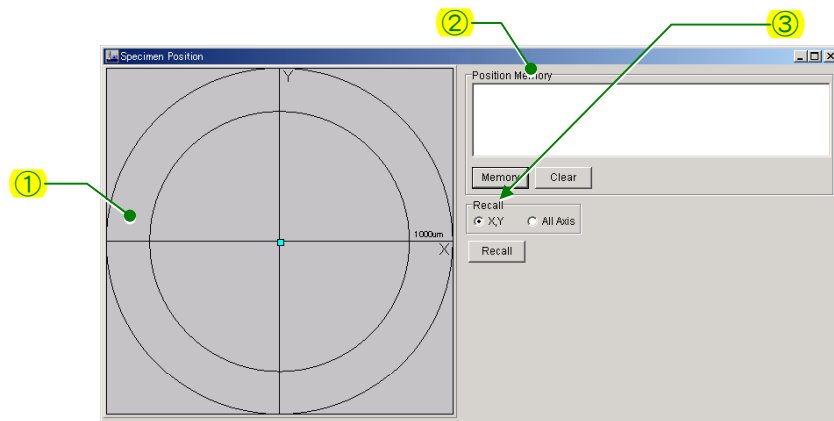

Fig. 4.28 Specimen Position window
- ① **Specimen position indicator**
Indicates the specimen position, viewed from the Z axis, which is being observed or which was recorded using the Memory button (② in Fig. 4.28).
- ② **Position Memory**
- ③ **Recall**
- **Recall** Clicking on this button moves the specimen stage to the position whose coordinates are stored and selected from the Position Memory window (② in Fig. 4.28).